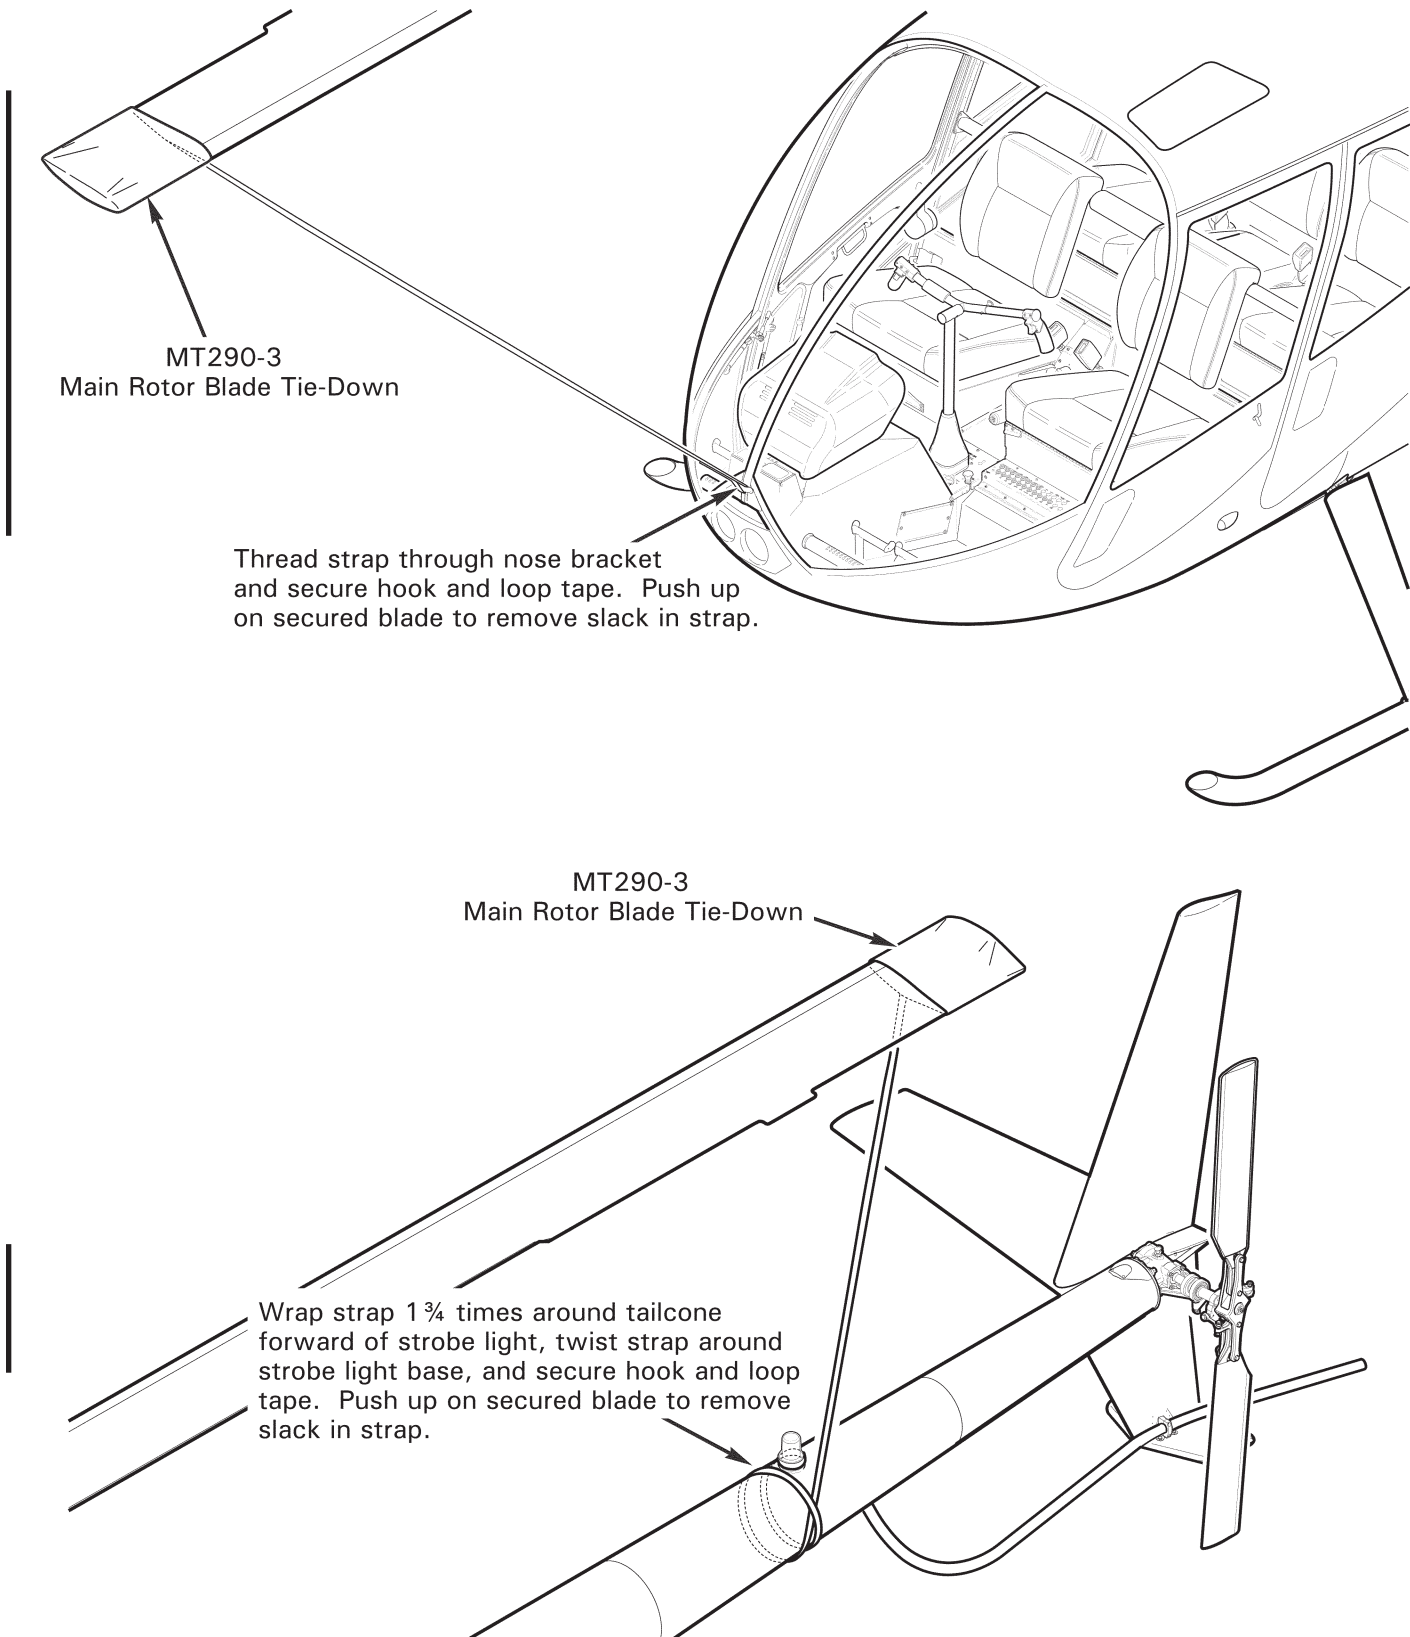

FIGURE 10-1 MAIN ROTOR BLADE TIE-DOWNS
2. Refer to Figure 10-1. Slide MT290-3 tie-down jacket over forward (lowered) main rotor blade tip, with white lettering facing down. Thread strap through nose bracket and secure tie-down hook and loop tape. Push up on secured blade to remove slack in tie-down strap.